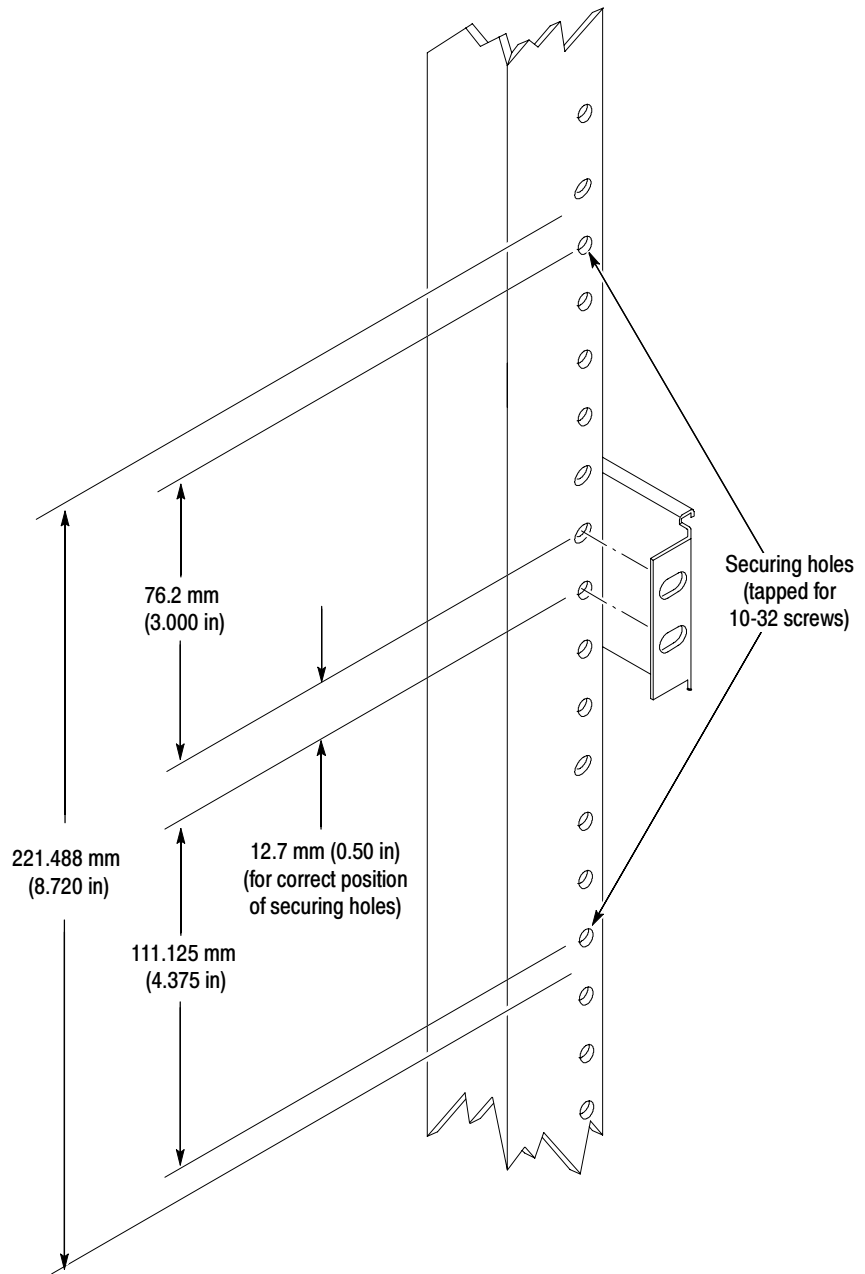

Figure 11: Vertical clearances for rack installation (left-front rail shown)
a. *Select the mounting position in rack:* Select two 0.5 inch-spaced holes in the front rail. Verify that the 4.36 inch and 10.500 inch clearances exist relative to those mounting holes. See Figure 11 on page 17.